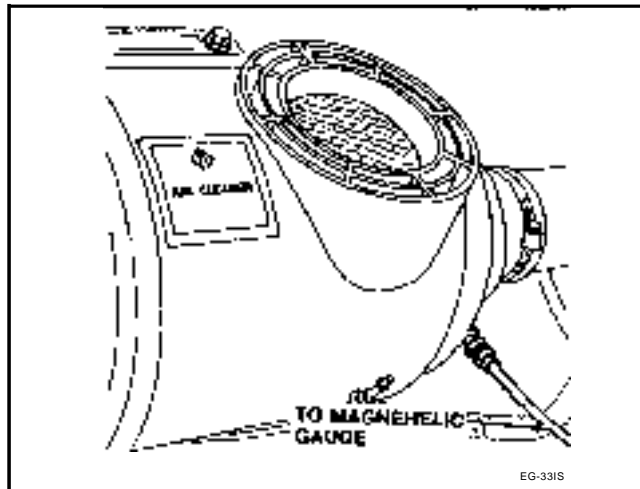

Figure 2.3-5. - Restriction Test Location
1. Attach the restriction test gauge (Figure 2.3-5.) at air cleaner housing tap location.